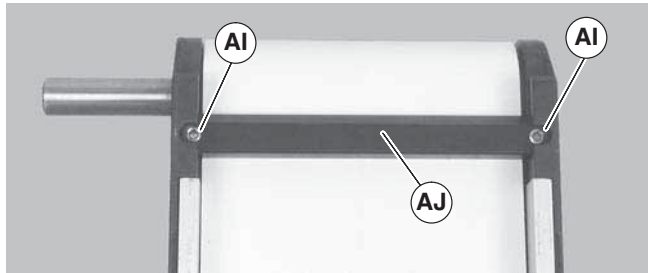

Figure 17
1. If equipped, remove bottom wipers (Figure 17, item AJ): Remove fastening screws (AI) then remove wiper (AJ).
3. If equipped, remove bottom wipers (Figure 17, item AJ): Remove fastening screws (AI) then remove wiper (AJ).